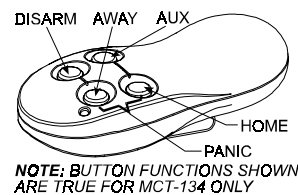

Figure 23. MCT-134 / 104
C. MCT-134 / 104* (Fig. 23): 4-button hand-held units. MCT-134 (CodeSecure) can replace the MCT-234 keyfob. MCT-104 (PowerCode) can perform emergency and non-alarm functions. Both units look alike.